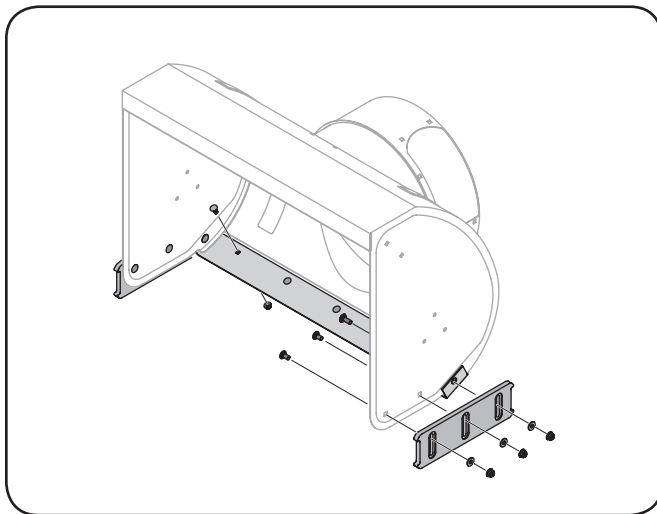

Figure 6-1
1. Remove the six carriage bolts, hex nuts, and bell washers that secure the two skid shoes to the sides of the auger housing. Refer to Figure 6-1.
2. Position the new skid shoes and secure with the carriage bolts, bell washers, and hex nuts. Make certain the skid shoes are adjusted to be level. Refer to Figure 6-1.